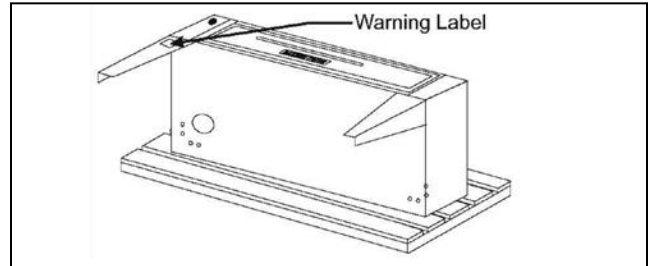

Figure 1
- Legs are shipped in a separate carton complete with mounting bolts and washers. Firmly bolt two legs (in case of casters, the two with the brakes must be used here) to the upper two corners (front) of the oven as it rests on the pallet. Note: (See Fig. 1).